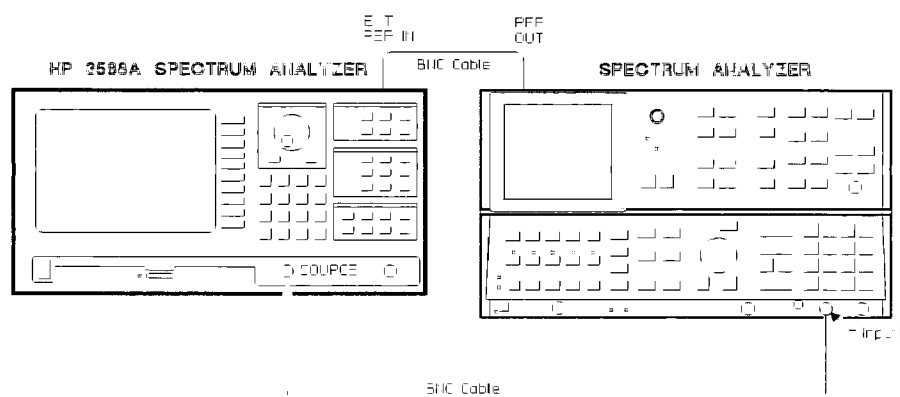

Figure 3-17. Source Harmonic Distortion Setup
1. Connect the test equipment as shown in figure 3-17